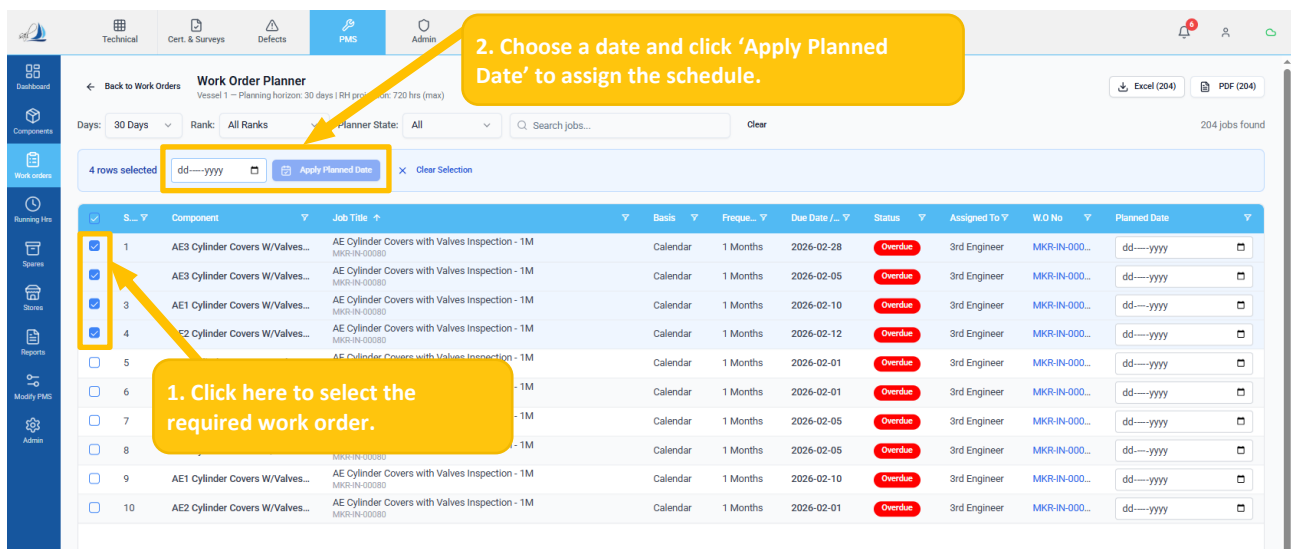

Figure 34
- The 'Work Order Planner' page below appears after clicking the 'Planner' button. (Ref Figure 34)
- The user can select multiple records as per the required work order using the checkbox. (Ref Figure 34)
- Click the 'Planned Date' field and select the required date to update the planned date for the selected work order. (Ref Figure 34)